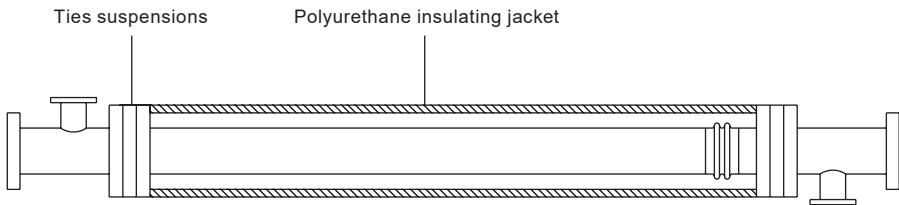

Fig. 10
- 4.11** To protect the expansion joint from external damage and optimise energy consumption, it is advisable to use a polyurethane insulating jacket as shown in Figure 10.